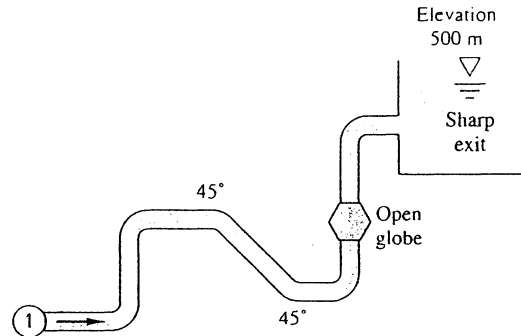

Fig. P6.105
6.105 The system in Fig. P6.105 consists of 1200 m of 5 cm cast-iron pipe, two 45° and four 90° flanged long-radius elbows, a fully open flanged globe valve, and a sharp exit into a reservoir. If the elevation at point 1 is 400 m, what gage pressure is required at point 1 to deliver 0.005 m³/s of water at 20°C into the reservoir?